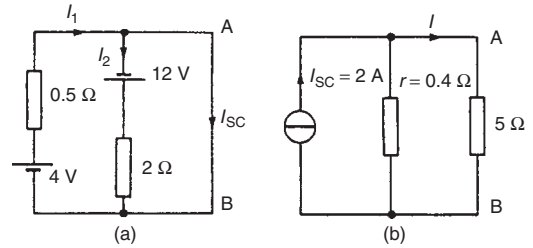

Figure 13.59
- (i) The 5 Ω branch is short-circuited as shown in Fig. 13.59(a)
- (ii) From Fig. 13.59(a),
- (iv) From the Norton equivalent network shown in Fig. 13.59(b) the current in the 5 Ω resistance is given by: